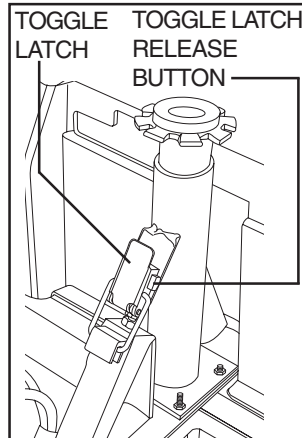

Figure 16. Toggle Latch (Latched)
1. Push in the toggle latch release button while pulling back the toggle latch. See figures 16 and 16A.